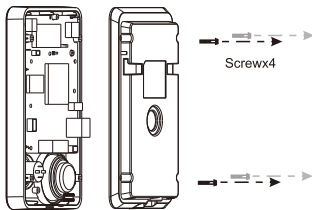

Figure 5
B. With Phillips screwdriver, unpacks the Back Panel and the main part of intercom as shown in Figure 5.